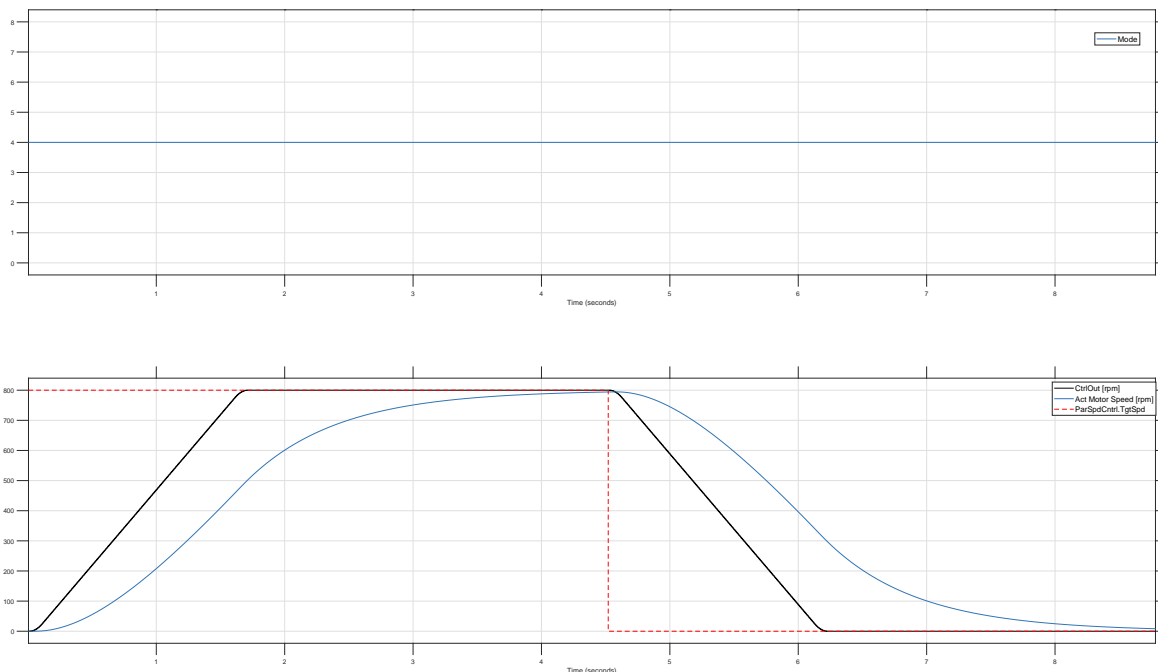

Figure 9: Frequency Drive with poorly set controller parameters. Large Lag Error and no Steady-State Accuracy.
The Technology Block calculates the motor's rotational speed setpoint, which is output through *CtrlOut* . This output needs to be connected to a Frequency Drive that controls the motor's speed. To ensure precise positioning, it's crucial that the motor can accurately follow the rotational speed setpoint provided by *CtrlOut* .To achieve this, before using the Position controller function block, send rotational speed setpoints to the frequency drive. The first step is to fine-tune the frequency drive's control parameters so that the motor can quickly and accurately match the rotational speed setpoint, with minimal overshoot. The motor must also be capable of following these speed setpoints at the maximum allowable acceleration and jerk rates, maintaining precision and stability. Once you've ensured that the motor's speed control is highly responsive and stable, you can proceed to use the Technology Block for precise positioning tasks. This initial setup is key to achieving the accurate positioning of the linear axis. See figure 9 to 13.
1. Issue of Motor Speed Control in figure 9: